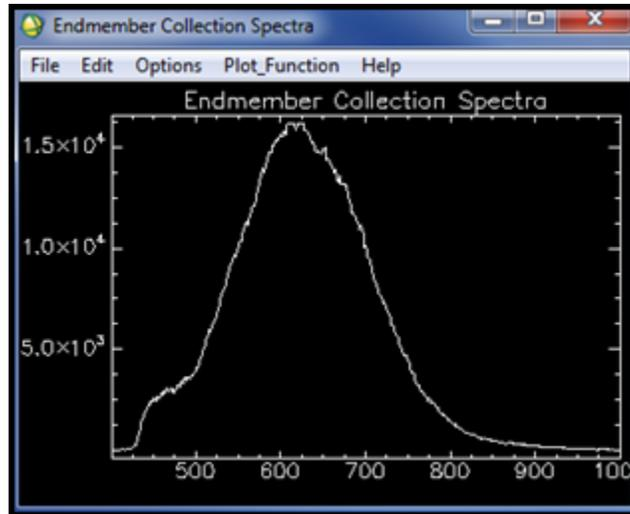

Figure 5.2e. Plot containing the spectrum of the endmember
- Click Plot to create a plot window that is used to accumulate the Endmember Collection Spectra (Figure 5.2e). In this case we have a single Endmember.